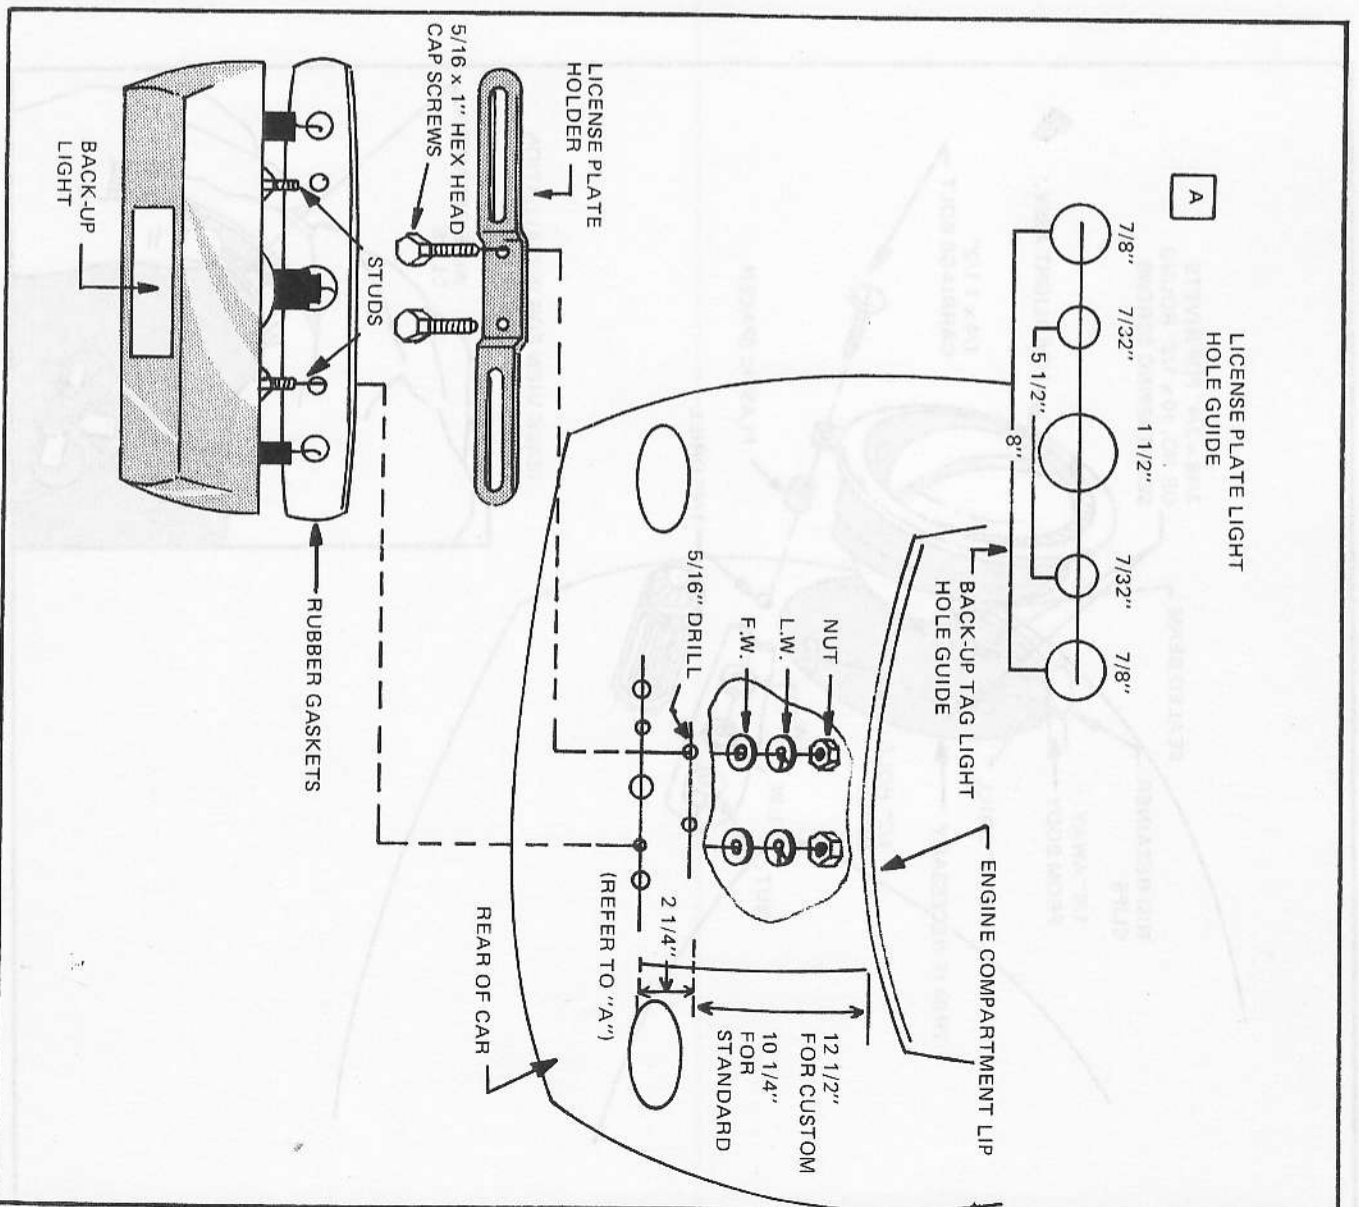

Figure 3
- ☐ Center rubber gasket from license back-up light, along lower mark under license plate bracket. Drill a 1 1/2" hole in the center with an appropriate hole saw. Drill two 7/8" holes on 8" centers for side lights. Drill two 7/32" holes on 5 1/2" centers for mounting studs. See Figure 3.